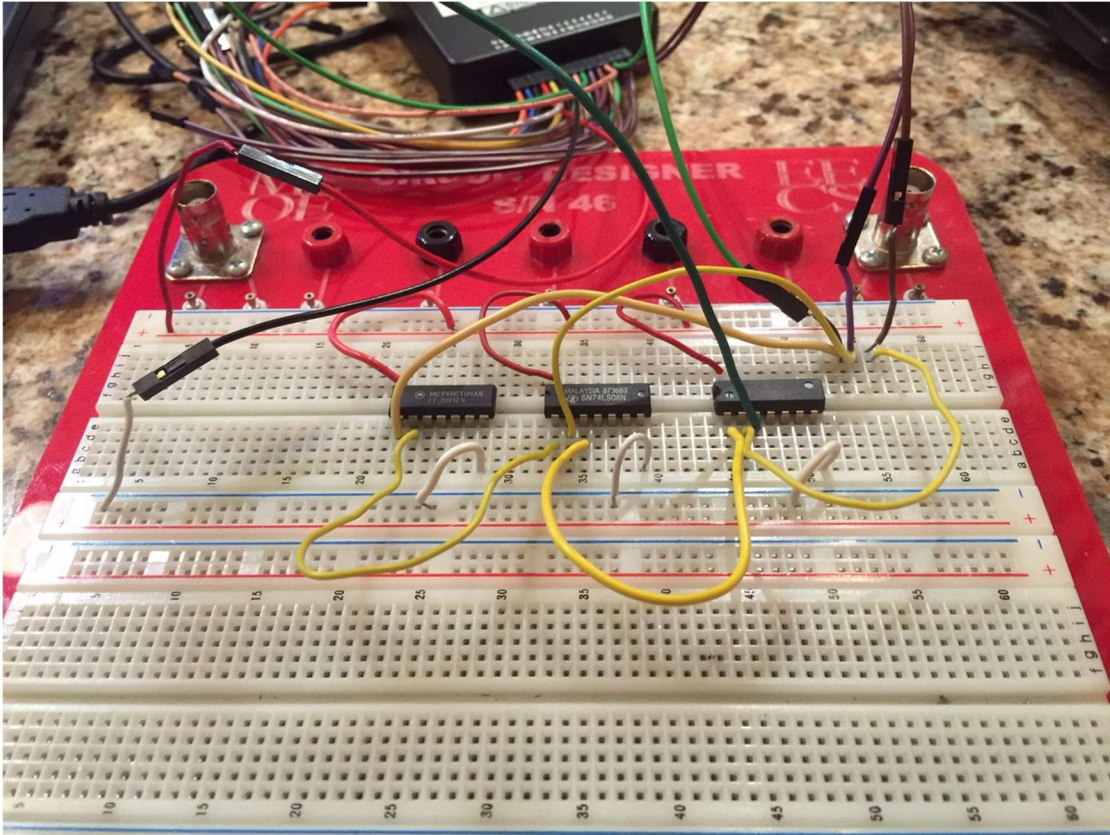

Figure 12: Multiple Chips Interconnected with Wire
- b. **Note** that the schematic shows chip numbers and suggested pin numbers. **Refer** to the 7400 family datasheets to see how the pin numbers were chosen. Each chip has multiple gates. Chip gates are simply assigned to schematic gates one at a time. Each gate's pins from the chip are added to the diagram. The diagram then guides wiring. Figure 12 shows powers, grounds, and wires interconnecting pins.